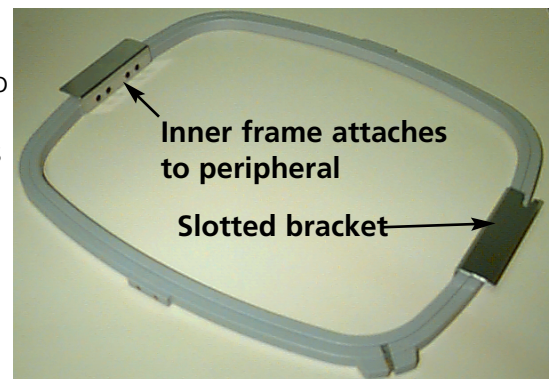

Figure 2-11
3. Insert the hoop frames by sliding the side brackets underneath the spring clips on the support arms. Make sure the slotted bracket (see Figure 2-11) is to the right (as you are facing the machine). Slide the hoop towards the rear of the machine until it snaps into place.